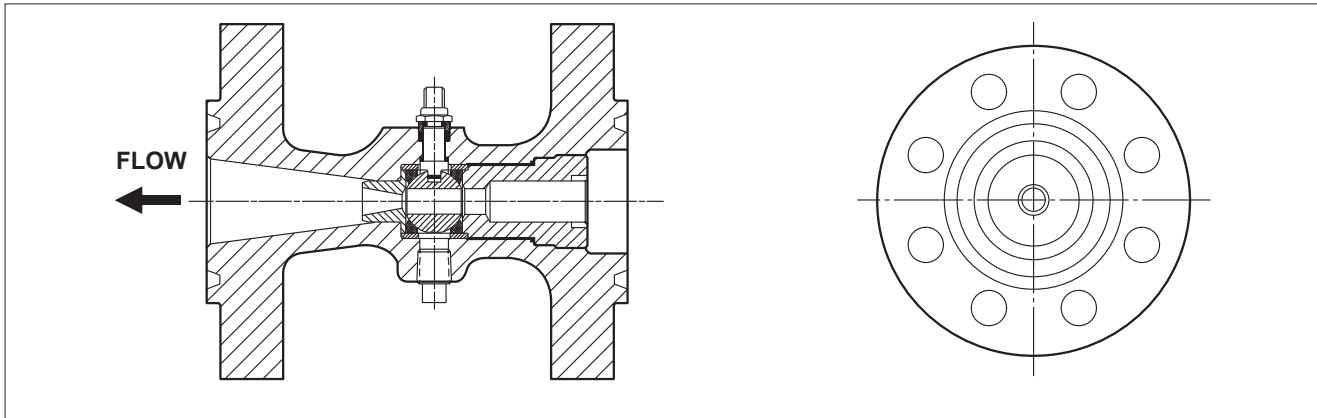

Figure 1.
2. Install the spacer (37) into the body (1) and let it drop to the bottom. Insert the sleeve (34) into the body (1) until the sleeve (34) rests on the spacer (37). Make sure that the two holes on the O.D. of the sleeve line up with the stem hole and plug hole.
3. Slide one valve seat (5) sideways into the body (1) to below the bonnet opening, and tilt it into place so that the proper surface (**see Figure 1**) will be adjacent to the ball (3), **BEING CAREFUL NOT TO CUT OR SCRATCH THE SEAT.**
4. Assemble one stem bearing (8) onto the stem (4). From outside the body (1), insert the two stem seals (7) into the stem hole.